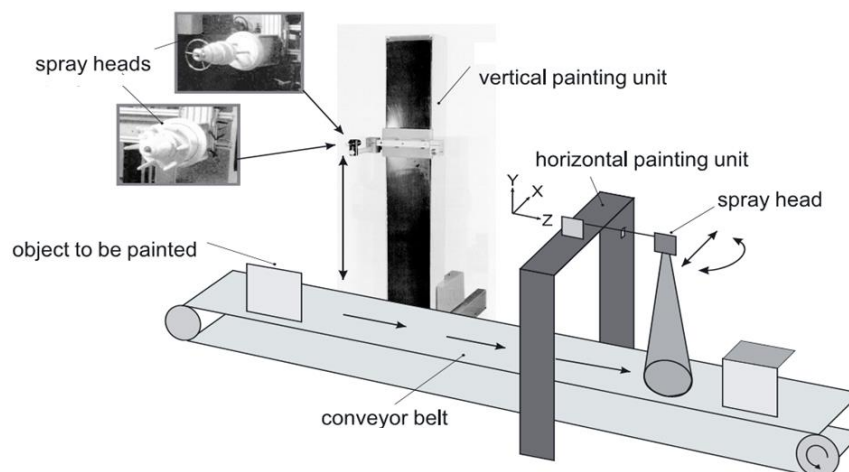

Figure 1
4. For painting mass-produced articles (kitchen appliances, audio and video equipment, aluminum wheel rims), painting systems in the form of continuous lines are often used. On these, the objects to be painted pass continuously through the system on a conveyor belt. The paint is applied by a number of spraying units, the oscillating movement of which runs either vertically (for the side surfaces of the object) or horizontally (for the upper side of the object) as shown in Figure 1. According to VDI 2206, design a mechatronic system for this process.